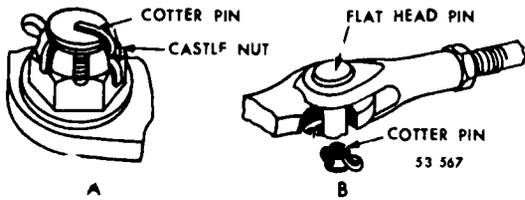

Figure 127. Application of cotter pin, castle nut, and flathead pin.
(1) Flathead pins, sometimes called clevis pins, are used on secondary connections that do not operate continuously. This type of pin should be secured with a cotter pin and installed with the head up, if possible, as shown in figure 127,B.
(2) Taper pins are used in joints that carry shear loads where the absence of clearance is essential. They should also be used for parts that have to be taken apart frequently, since their removal does not damage the hole. When parts must be kept in absolute alinement, use taper pins. There are two styles of taper pins; one without threads that is secured with safety wire and one with threads that is secured with a nut.
(3) Cotter pins are used to secure bolts, screws, nuts and other pins, as shown in figure 127,A, and should not be used more than once.
(4) Straight pins are used to keep parts in alinement or in a fixed position. They are solid, with a small chamfer on one or both ends, which enables the pin to slide into the hole easily. These pins are sometimes hardened to increase their strength.
(5) Spring pins are slotted or coiled, chamfered, heat treated, and manufactured with a slightly greater diameter than the holes in which they are to be used. They are stronger than mild carbon steel straight and taper pins. The main ad-